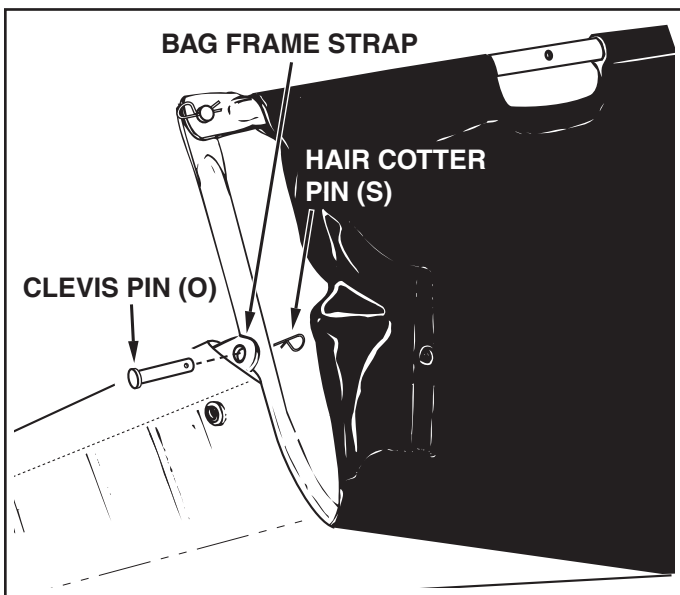

FIGURE 15
STEP 18: (SEE FIGURE 15)
- Assemble the bag frame strap to the holes in the lower hopper tubes using two clevis pins (O) and hair cotter pins (S).